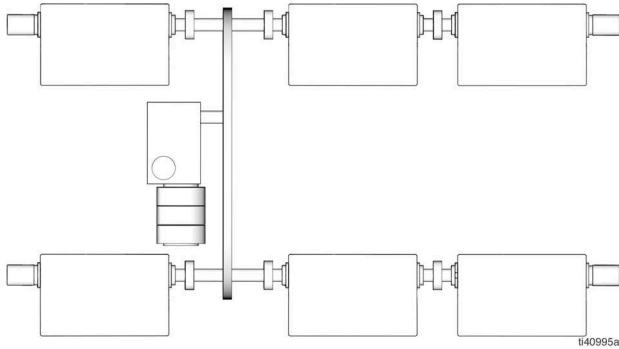

FIG. 4
- A parallel drive system may be used through chain and sprocket devices (FIG. 4).